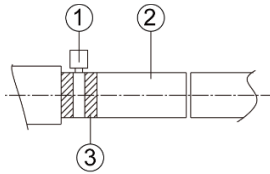
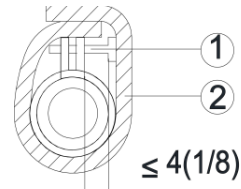

Fig 9.3.2
Fig 9.3.3
- (1) Insert the drain hose into the drain hole and tighten it with tapes, as shown in Fig 9.3.2.
- (2) Tighten the pipe clamp, with the distance between screw nut and hose smaller than 4mm(1/8in.).
- ① metal clamp(accessory) drain hose(accessory)
- (3) Use sealing plate to make the pipe clamp and hose insulated, as shown in Fig.9.3.3.